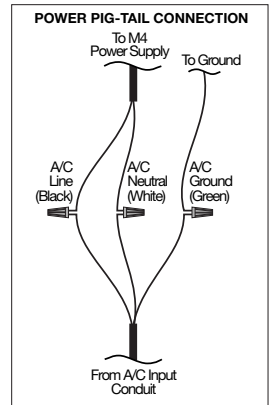

FIGURE 3a
4. Twist the black wire of the M4 controller with the incoming "120 VAC" wire. Install a wire nut or crimp using an approved insulated method (see FIGURE 3a).
- Twist the white wire of the M4 controller with the incoming “neutral” (not the ground) wire. Secure as in “step (4)” (see FIGURE 3a).
- Repeat for the green ground wire and the incoming ground wire (see FIGURE 3a).